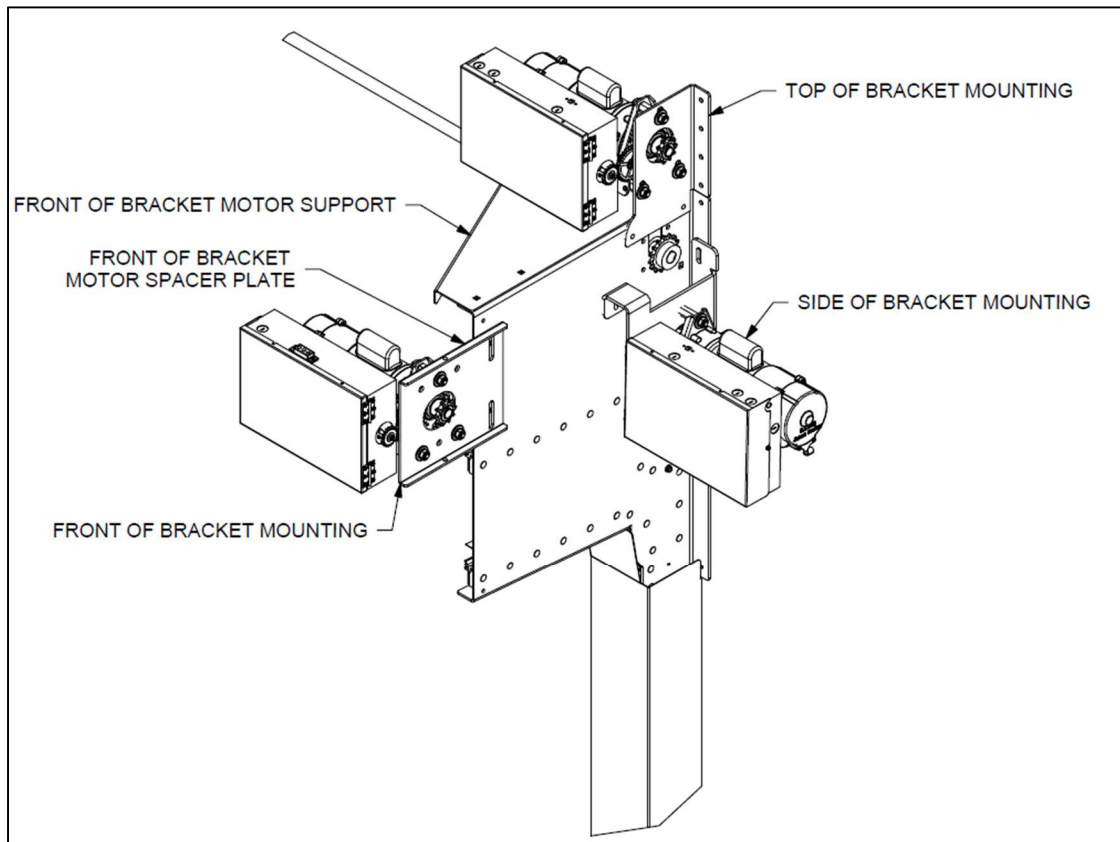

Figure 20 – MOUNTING CONFIGURATIONS (RIGHT-HAND MOUNT SHOWN)
54. Locate the motor mounting bracket, per configuration ordered. See **Figure 20** below for possible configurations.